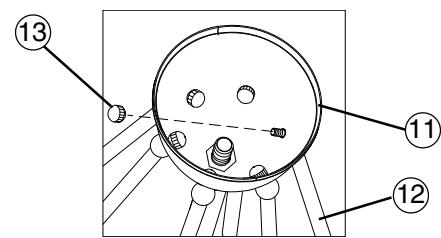
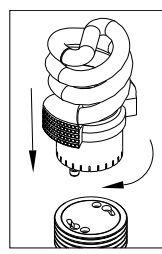
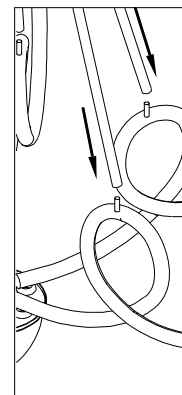
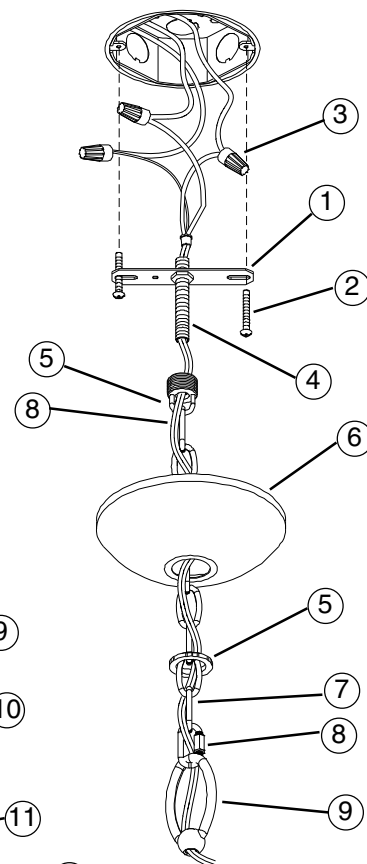

Figure 3
Figure 6
Figure 4
Figure 5
3. **Hold fixture supply wires and thread one end** of the Center Stem Assembly (14) into the Fixture Assembly (15) and the other end to hang straight on Oval Font Assembly (11).
4. **Install Support Rods (12)** to Oval font Assembly (11). Insert rod through open hole and secure with Finial (13).
**See Fig. 3.** Position other end of each Support Rod over protruding prong on each Fixture Assembly. **See Fig. 4.**
5. **Place Oval Font Cover (10)** onto Font assembly (11). Install Loop (9) onto protruding threads-secure tightly.
6. **Assemble mounting hardware:** Thread Threaded Pipe (4) about 1/2" into center hole of Crossbar (1). Hold short end of Threaded Pipe (4) and place Canopy (6) over opposite end (Note: Crossbar will be inside of canopy). Thread Canopy Loop/Nut (5), attached to end of Chain, onto end of Threaded Pipe. **See Fig. 5**
7. **To determine desired length of chain** use Lockable Link (8) and Hook Chain (7) temporarily to Loop (9). Hold fixture up to ceiling to determine desired length of Chain and remove links if needed. *Note: Use pliers to remove links to adjust Chain to desired length or call Technical Support to purchase additional chain.* Attach end link of Chain (7) to Loop (9) with Lockable Link (8). Route the ground & fixture supply wires through every fourth link of Chain and through center of 1-1/2" Threaded Pipe (4) in Crossbar (1). Trim ground & fixture supply wires to extend approximately 6" beyond Threaded Pipe and strip 1/2" insulation from ends of wires. **See Fig. 5**
8. **Take Fixture Assembly by the Chain,** loosen Canopy Nut (5) completely and slide Canopy (6) down. Have one person help to support Fixture while mounting Crossbar (1) to junction box with two 1-1/2" Screws (2). **See Fig. 5**
10. **Use Wirenuts (3)** to connect brown or clear fixture wire to the black power supply wire and brown or clear ribbed fixture wire to the white power supply wire. **See Fig. 5**
12. **Raise Canopy (6)** up to ceiling and fully thread Canopy Nut (5) onto Canopy Loop (5).
13. **Unscrew Lock Ring (17)** from the Socket.
14. **Place the Glass Diffusers (16)** over Sockets and reinstall Lock Rings (17).
15. **To install Lamps (19)** insert pins into Socket and rotate clockwise until secure. **See Fig. 6**
3. **Sostenga los alambres de suministro** eléctricos del luminario y enrosque un extremo del Ensamblaje Central del Vástago (14) en el Ensamblaje de la Carcasa (15) y el otro extremo dentro del Colgadero Recto en el Ensamblaje de Fuente Ovalada (11).
4. **Instale las Varillas de Soporte (12)** al Ensamblaje de Fuente Ovalada (11). Inserte la varilla por el agujero abierto y asegure con un Finial (13). **Vea Fig. 3.** Coloque el otro extremo de cada Varilla de Soporte sobre la clavija sobresaliente en cada brazo del Luminario. **Vea Fig. 4.**
5. **Coloque la Cubierta de Fuente Ovalada (10)** dentro del Ensamblaje de la Fuente Ovalada (11). Instale el Lazo (9) en las roscas sobresaliente-asegure firmemente.
6. **Ensamble el herraje de montaje:** Rosque el Tubo Roscado (4) alrededor de 1/2" en agujero de centro de la Barra Transversal (1). Sostenga el extremo corto del Tubo Roscado y coloque el Espaciador de Sobrecielo (6) sobre el extremo opuesto (Nota: *La Barra Transversal estará dentro del Espaciador de Sobrecielo*). Rosque la Tuerca de Lazo del Espaciador de Sobrecielo (5), la cual está sujeta al extremo de la cadena, al extremo del Tubo Roscado. **Vea Fig. 5.**
7. **Para determinar la longitud deseada de la cadena** use el Eslabón de Cerradura (8) y enganche la Cadena temporalmente al Lazo (9). Sostenga el luminario hasta el techo para determinar longitud deseada de la Cadena y si necesario, quite eslabones. Nota: *Use alicates para quitar los eslabones y ajustar la Cadena a la longitud deseada o llame a Soporte Técnico para comprar cadena adicional.* Sujete el eslabón final de la Cadena (7) al Lazo (9) con el Eslabón de Cerradura (8). Encamine los alambres de tierra y de suministro de electricidad del luminario a través cada cuarta eslabón de la cadena y por el centro del Tubo Roscado de 1-1/2" (4) en la Barra Transversal. Corte los alambres de hacer tierra y los de suministro de electricidad del luminario para que extiendan aproximadamente 6" más allá de Tubo Roscado y quite 1/2" del material aislante del extremo de los alambres. **Vea Fig. 5.**
10. **Use Capuchones de Alambres (3)** para conectar el alambre marrón o transparente del luminario al alambre de suministro de energía negro y el alambre del luminario acanalado marrón o transparente al alambre de suministro de electricidad blanco. **Vea Fig. 5.**
12. **Levante el Espaciador de Sobrecielo (6)** hasta el techo y totalmente enrosque la Tuerca del Espaciador de Sobrecielo (5) al Lazo del Espaciador de Sobrecielo (5).
13. **Desenrosque el anillo de cierre (17) del enchufe.**
14. **Coloque la Difusor de Cristal (14)** sobre el enchufe e reinstale el anillo de cierre (11).
15. **Para Instalar la lámpara (13)** inserte las clavijas en la base del enchufe y gire hacia su derecha hasta que quede segura. **Vea Fig. 6.**